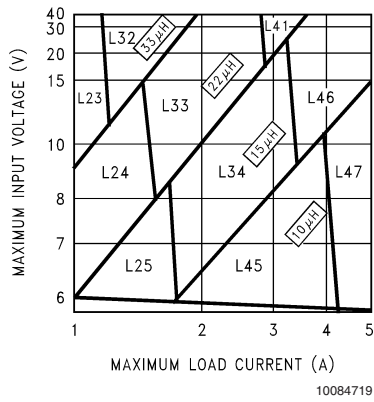
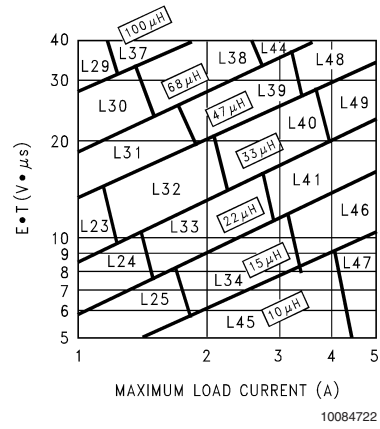

FIGURE 3. LM2679-3.3
FIGURE 6. LM2679-ADJ
Step 3: Determine the inductor required by using one of the four nomographs, *Figure 3* through *Figure 6*. Table 1 provides a specific manufacturer and part number for the inductor.
Step 5: Determine an input capacitor from Table 4 for fixed output voltage applications. Use Table 2 to find the specific capacitor type. For adjustable output circuits select a capacitor from Table 2 with a sufficient working voltage (WV) rating greater than $V_{in\ max}$, and an rms current rating greater than one-half the maximum load current (2 or more capacitors in parallel may be required).
Step 3: Use the nomograph for the 3.3V device, Figure 3. The intersection of the 16V horizontal line ($V_{in\ max}$) and the 4A vertical line ($I_{load\ max}$) indicates that L46, a $15\mu H$ inductor, is required.
Step 3: To use the nomograph for the adjustable device, Figure 6, requires a calculation of the inductor Volt•microsecond constant ($E \cdot T$ expressed in $V \cdot \mu s$) from the following formula:
Using Figure 6, the intersection of $27V \cdot \mu s$ horizontally and the $3.5A$ vertical line (I_{load} max) indicates that L48, a $47\mu H$ inductor, or L49, a $33\mu H$ inductor could be used. Either inductor will be suitable, but for this example selecting the larger inductance will result in lower ripple current.
Important Note: When using the adjustable device in low voltage applications (less than $3V$ output), if the nomograph, Figure 6, selects an inductance of $22\mu H$ or less, Table 6 does